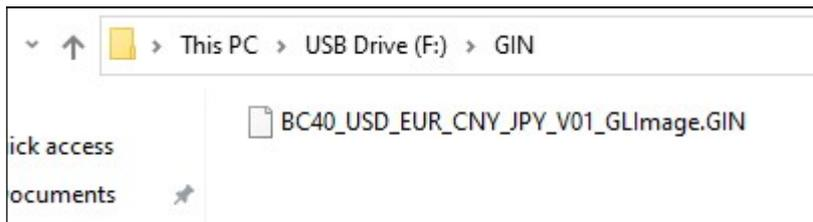

Figure 74
- 4) Copy the application in ".GIN" format to the bottom of the folder named "GIN" in the root directory of the USB flash drive, as shown in Figure 74 below.